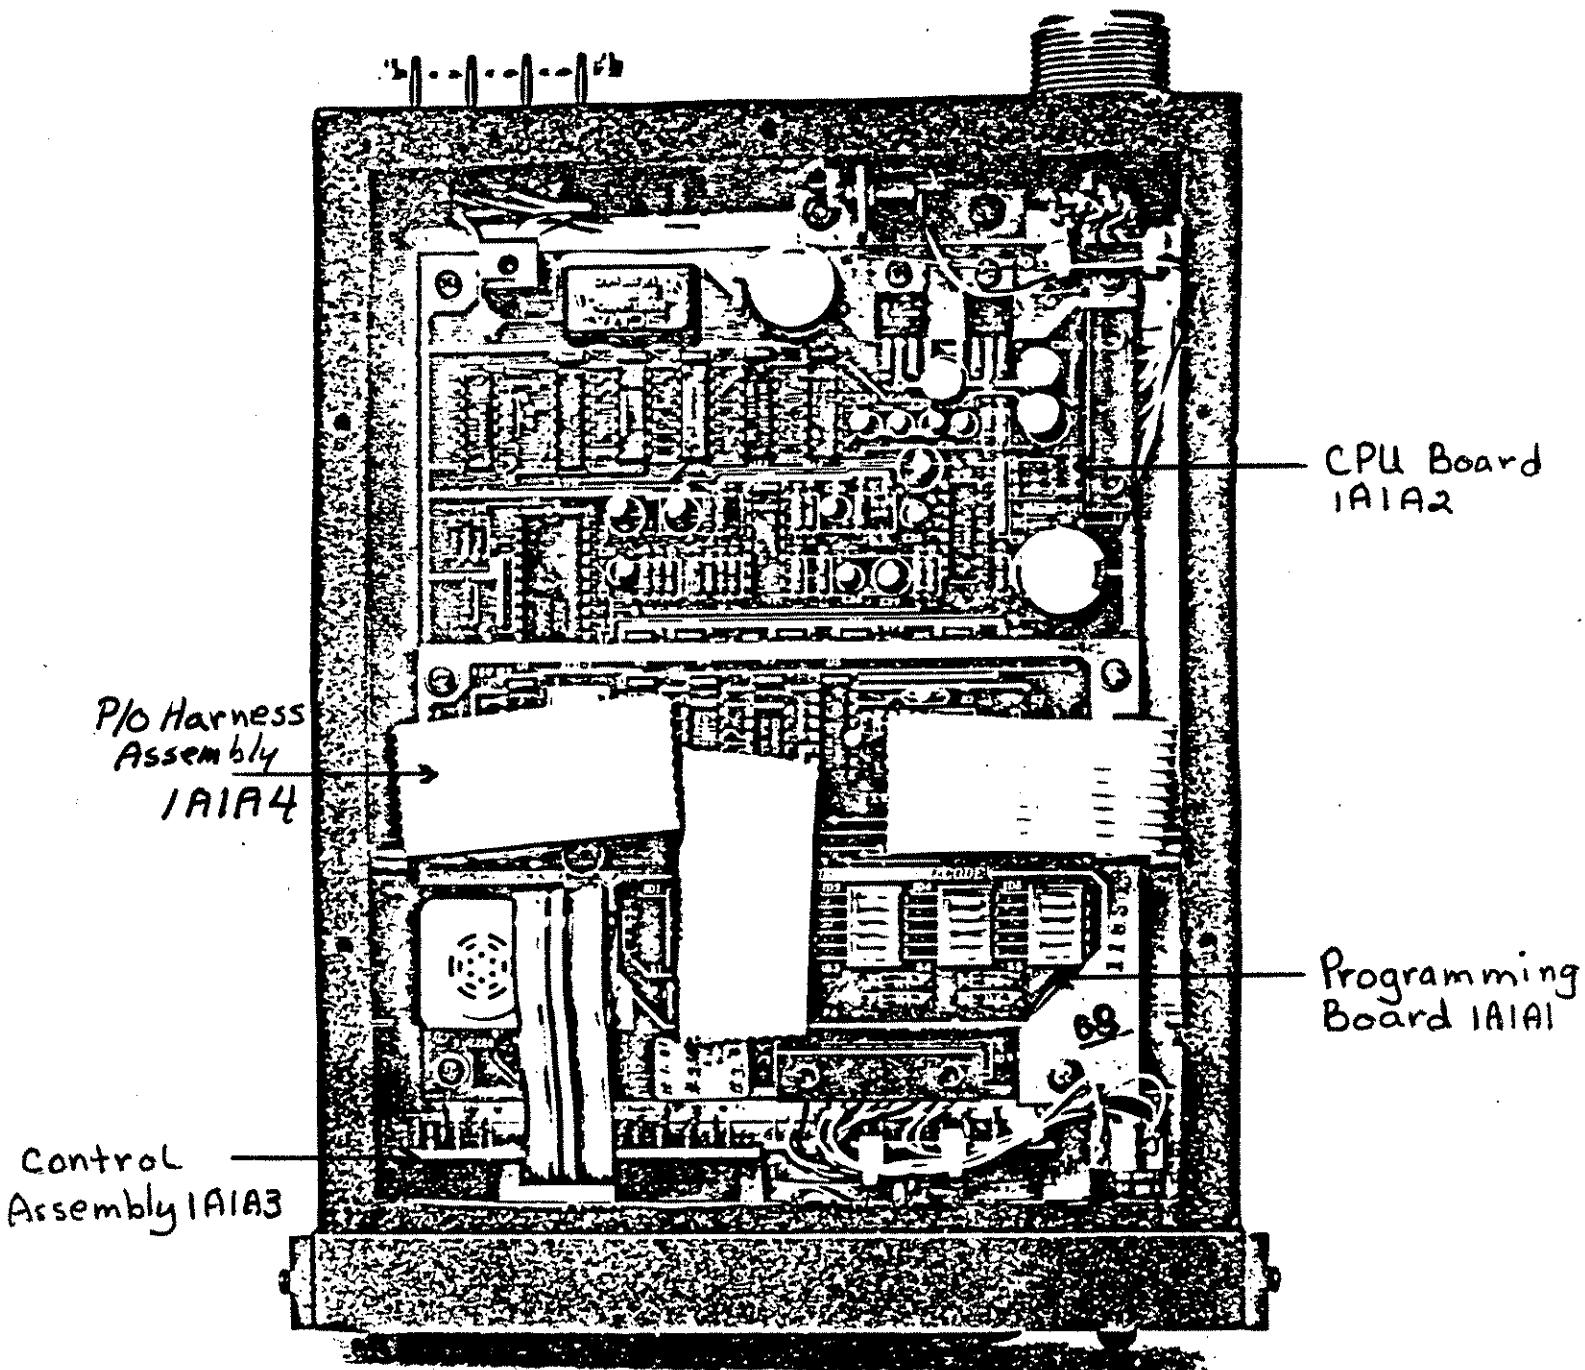

Figure 1.1 Major Assembly Locations
The GSC-902 is composed of four major assemblies, (1) Programming 1A1A1, (2) CPU 1A1A2, (3) Control 1A1A3, (4) Harness 1A1A4. See Figure 1.1 for major assembly locations.